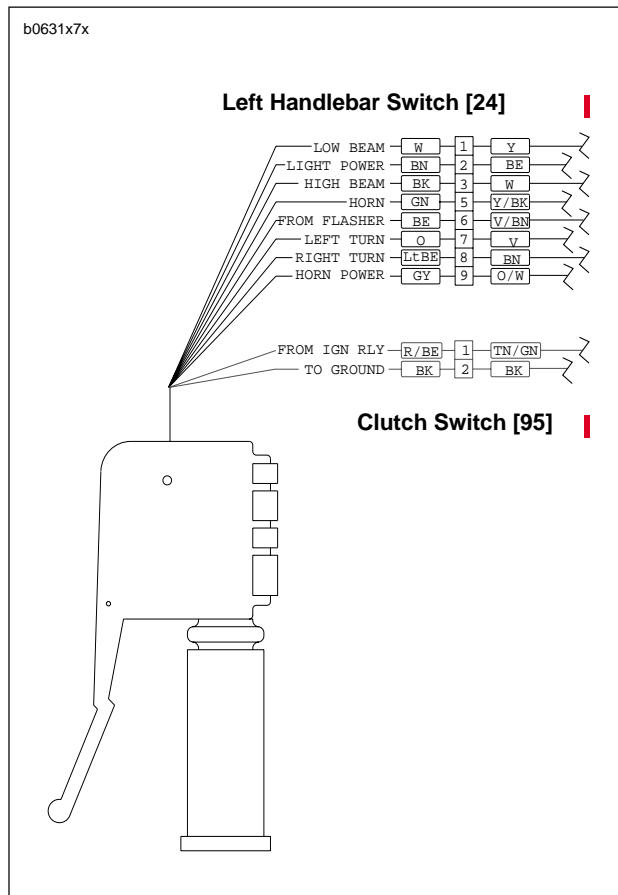

Figure 7-51. Left Handlebar Switch Connection
5. See Figure 7-51. Cut as many cable straps as necessary to access left handlebar switch connector [24] along right side frame tube. Detach connector [24] from wiring harness.